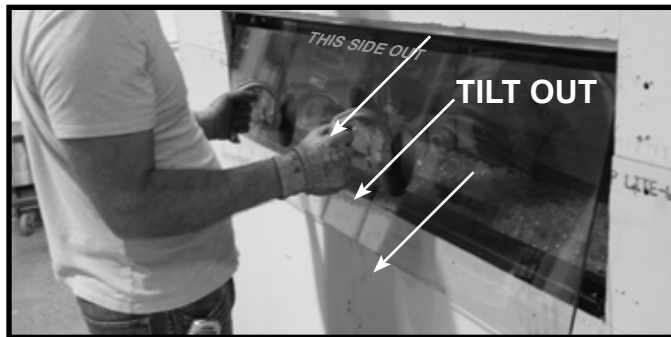

Figure 4.2 Tilt Barrier Glass and Remove
3. Tilt bottom out as shown in Figure 4.2. Slide glass down to remove it from the appliance.